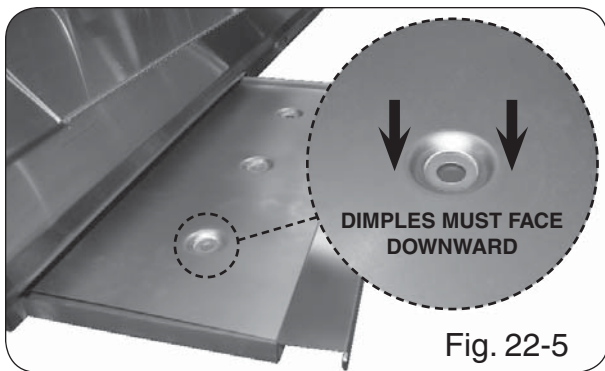

Fig. 22-5
**Note:** The charcoal drip tray has a heatshield to protect from over heating. It may be neccessary to remove the heatshield to properly clean out the charcoal drip tray. When reinstalling, the heatshield dimples must face downward as shown in Fig. 22-5.